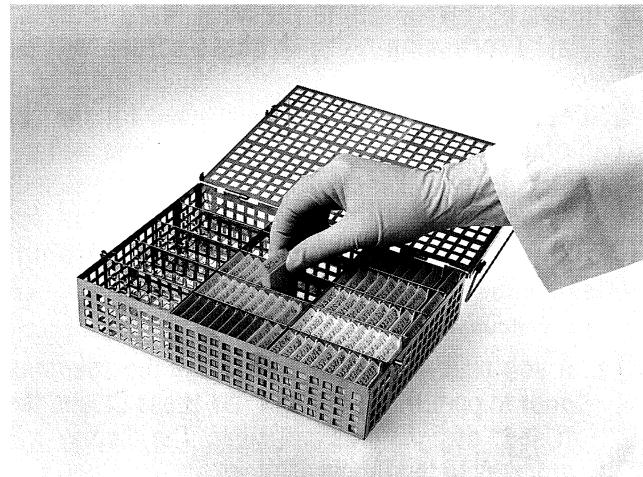

Figure 4-1
- b. Place the divider into the sample basket, then load the cassettes with the slanted end up (Figure 4-1). Each partition holds up to ten cassettes. Close and latch the basket lid. Fill the second basket if applicable.